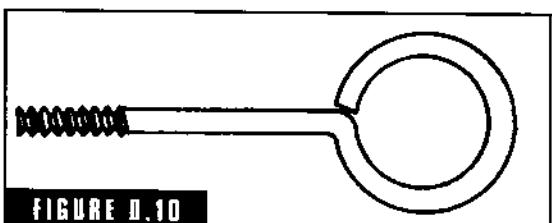

FIGURE D.10
**draw bolt** A threaded eye which fits a matching thread in a plate (*draw plate*). It is let into a pattern and used to lift (draw) the pattern from the mold or otherwise handle it (Fig. D-10).